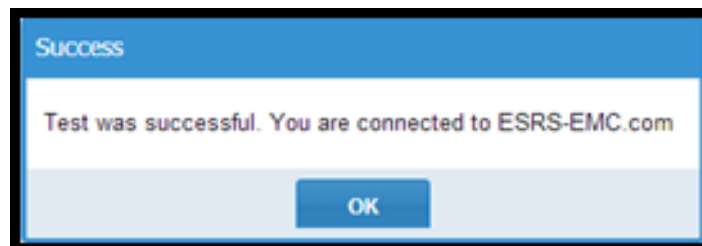

Figure 61 Success message
2. If you connected successfully, then a success test message appears, as shown in Figure 61 on page 50. Click **OK**.